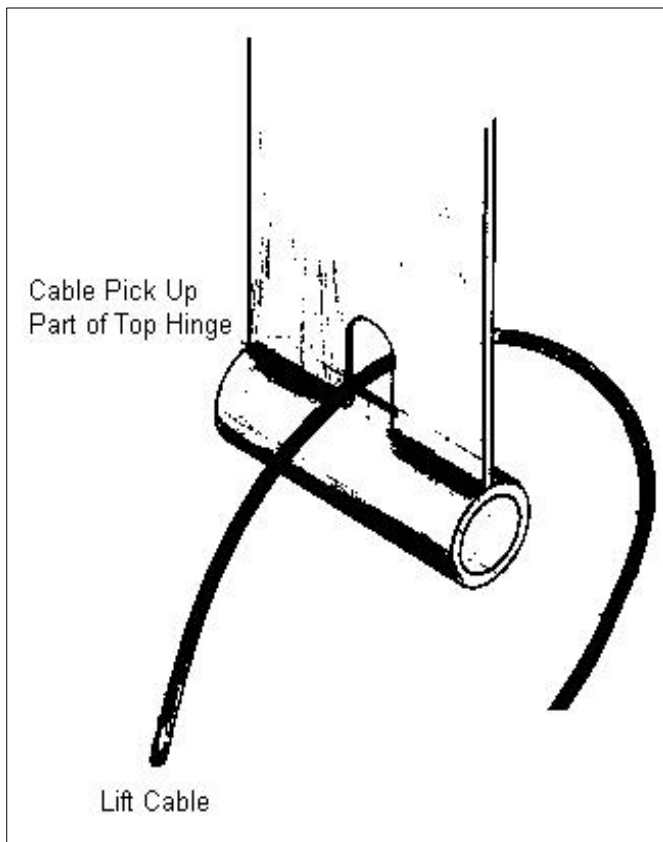

Figure 35 Clamping lift cables
Slide two (2) cable clamps over the cable and feed the cable through the pickup on top hinge. Slide a clamp up as close to pickup as possible and slide the second clamp 1-1/2 inches lower and tighten. **See Figure 35 and 36.**